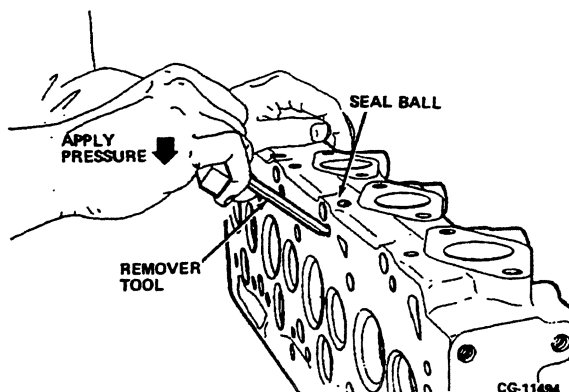

Figure 3.26C. Remove Steel (Seal) Ball
2. Insert the "J" bend of the remover tool into the orifice in the cylinder head, where the ball is to be removed. Apply downward pressure to the "tee" handle and the ball will pop out. (Refer to Figure 3.26C)